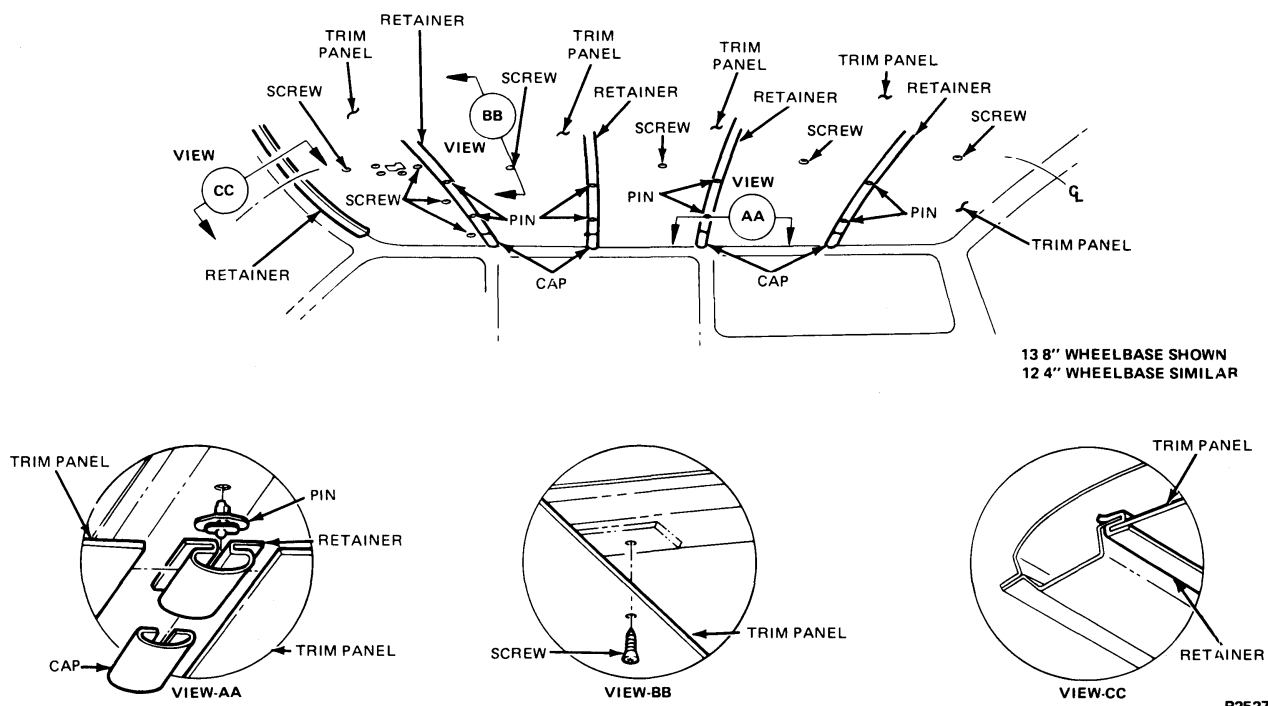

FIG. 1 Roof Trim Panels—E-100—E-350—124\" Wheel Base Shown—Others Typical
2. Install the centerline retaining screw (Fig. 1).
4. Remove trim panel retaining screw located on the centerline of the vehicle (Fig. 1).